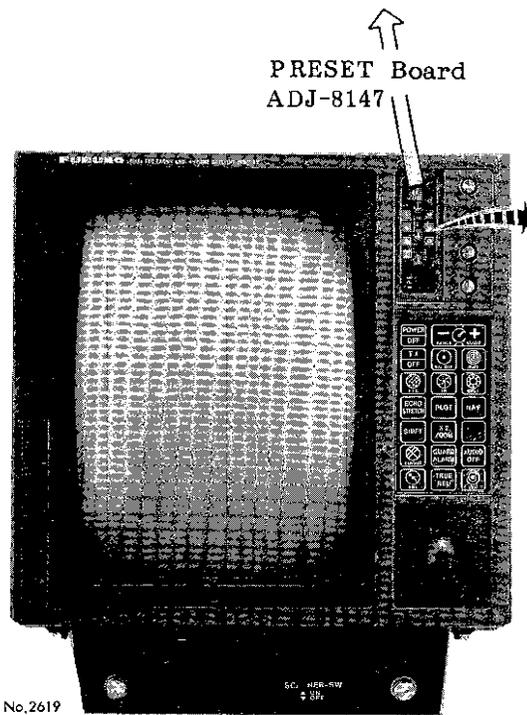

Fig.19 Display Unit with VR Panel Removed
1. Press the **POWER OFF** touchpad on the display unit, and the control panel will light up. In approximately 2 minutes and 30 seconds, the message "ST-BY" will appear at center of the screen. While this warmup is in process, pry off the VR panel on the front panel of the display unit. See Fig.19. This will expose the potentiometers for post installation adjustments. Push in the front panel TUNE control and release it to bring it out. Set the control to 12 o'clock, the GAIN control at 2 o'clock, and the A/C RAIN and A/C SEA controls at fully counterclockwise.
3. Press the **+** touchpad three times so that the radar is on the 24-mile range. Bring up the GAIN control until a small amount of noise appears on the screen. At this point, unless the tuning just happens to be at the optimum point, slowly adjust the coarse "TUNE" control accessible through the VR panel, watching the screen for radar targets. (See Fig.19.) You must patiently adjust this coarse-tuning control in very small increments, allowing the sweep to go around completely in order to observe the effect of a single small change in its setting. When you are finished optimizing the coarse tuning control behind the VR panel, verify that the fine TUNE control on the front panel peaks up for maximum radar echoes at 12 o'clock, or at least close to that point.
5. Compare the bearing measured in step 3 and 4 above, and calculate the direction and magnitude of the bearing error. If the error is within $\pm 5^\circ$, adjust rotary code switch S1 ("HEAD", clockwise rotation shifts the picture CW, Fig.19.)
3. Adjust the "TIMING" potentiometer (VR6, Fig.19) so that a straight object will appear straight with no "pushing" or "pulling" near the picture center.
2. Set VR4 at the position where a little background noise appears on the screen. See Fig.19 for the location of VR4.
2. Adjust potentiometer VR1 ("TUNE", Fig.19), located behind the VR panel of the display unit, so that a comparatively weak long range echo is discerned with maximum definition.
3. Adjust potentiometer VR8 ("PEAK", Fig.19) for the maximum number of tuning bars.
The illumination of the touchpad panel can be adjusted to suit your needs, by adjusting the "DIM" potentiometer (VR5) located behind the VR panel of the display unit. See Fig.19 for the location of VR5.
A/C SEA is preadjusted at the factory. However if the following conditions are not satisfied with the A/C SEA control, adjust potentiometer VR3 ("A/C SEA"), located behind the VR panel of the display unit (Fig.19.)
A/C RAIN is preadjusted at the factory. However if the following conditions are not satisfied with the A/C RAIN control, adjust potentiometer VR2 ("RAIN"), located behind the VR panel of the display unit (Fig.19.)